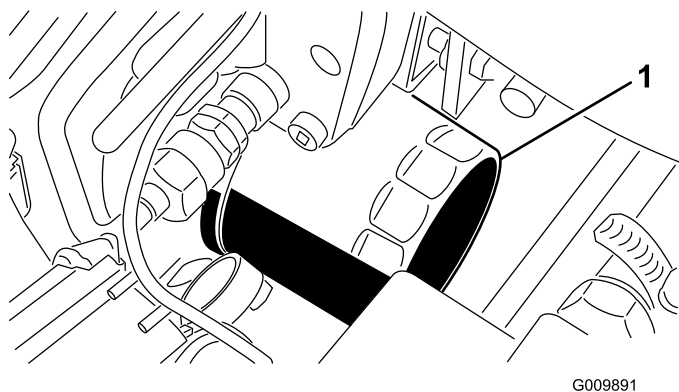

Figure 46
4. Remove the oil filter (Figure 46).